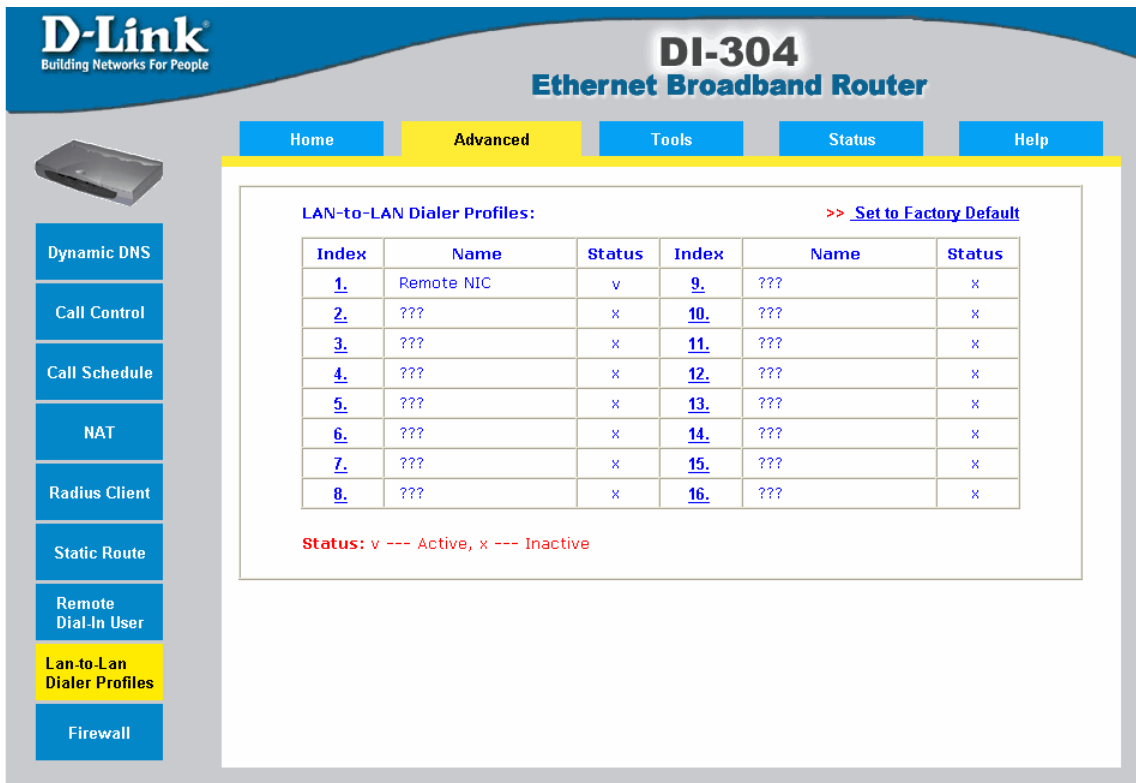
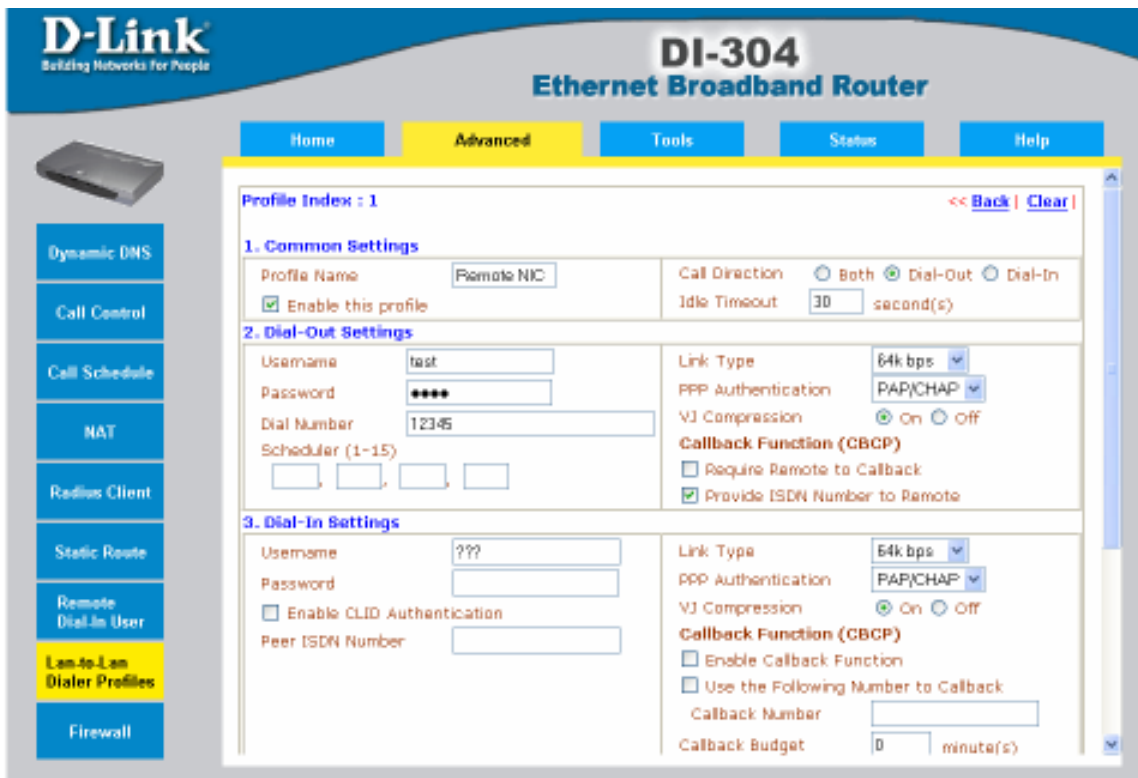
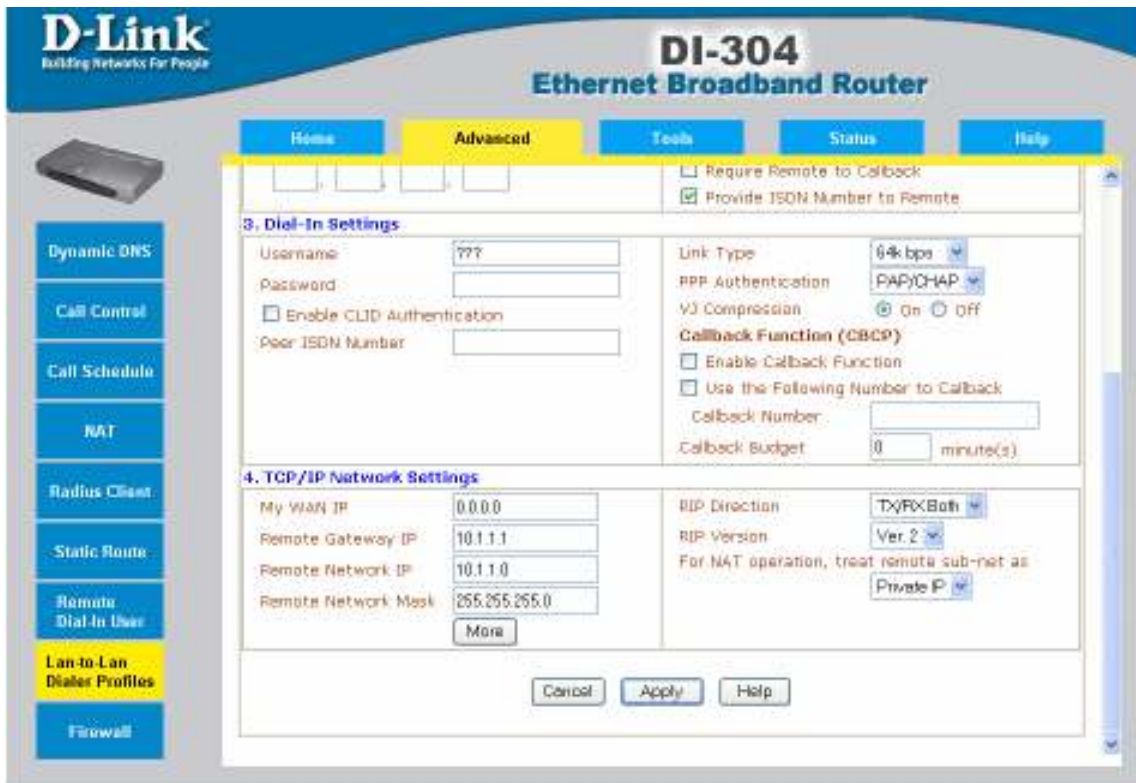

Figure 26: Enabling Lan-to-Lan Dialer Profiles
Figure 27: LAN-to-LAN Profile of ISDN Router 1 (1)
Figure 28: LAN-to-LAN Profile of ISDN Router 1 (2)
- To provide automatic dial in functionality, a LAN-to-LAN dialer profile has to be configured (see Figure 26, Figure 27, Figure 28). The first step is to create a new LAN-to-LAN profile. In the next configuration screen, the profile has to be enabled. Additional configuration is needed for the remote telephone number to dial and a user name and password for the access of the remote ISDN router. To allow automatic termination of ISDN link, an idle timeout can be set. If required, additional settings like the Link Type can be made.
4. For automatic dial in support, the IP address range of the remote network must be configured (see Figure 28). The remote Gateway IP and remote network IP are required. It is possible to define multiple LAN-to-LAN profiles and connect multiple remote IP networks. In that case, the remote network IP ranges have to be different in order to allow correct routing and dial in access to the remote networks.